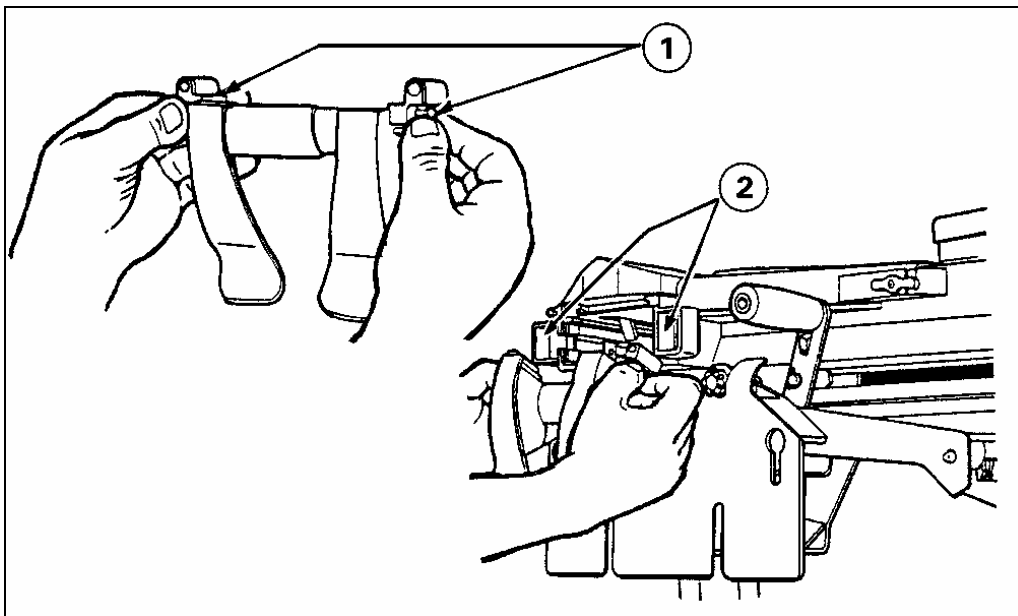

Figure 2-26. Attachment of feed throat.
- (1) Attach the feed throat by squeezing the spring-loaded pins on the feed throat (Figure 2-26).
- (2) Insert the feed throat on both sides of the feeder.
- (3) Ensure that the feed throat points down.